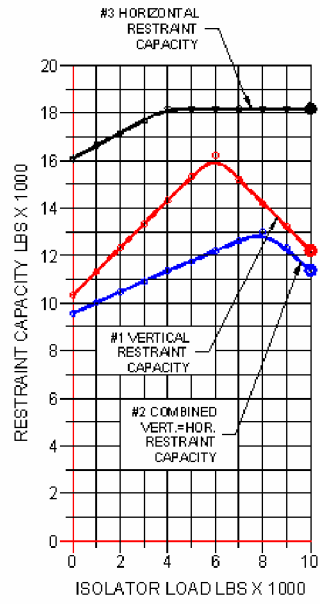

FIGURE 2
- 2) Refer to Figure 2 or 3 depending on whether the restraint is to be through-bolted (Steel Attachment) or anchored to concrete (Concrete attachment). Locate the above static load on the "X" axis and determine the horizontal restraint capacity rating by reading the intersecting "Y" axis value from the appropriate curve (#3 or #6).